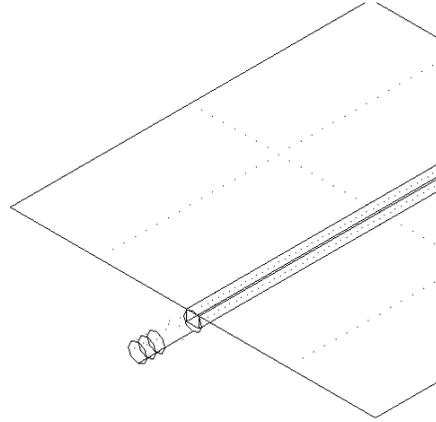

Figure 11-14 Geometry positioning
5. Alternate between **pan and zoom** until the model is positioned similarly to Figure 11-14.
Use the pan and zoom command to position the model to look like Figure 11-14. Use the right mouse button to switch between pan and zoom.